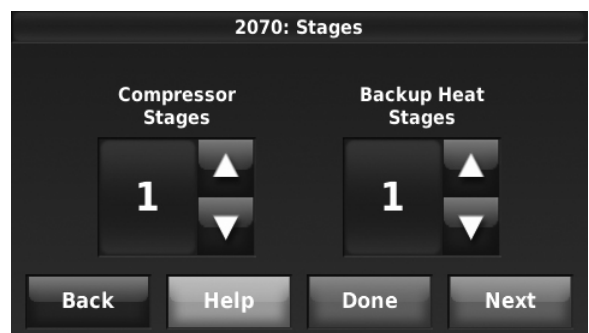

Fig. 102.
6. Select the number of Compressor and Backup Heat Stages. See Fig. 102.